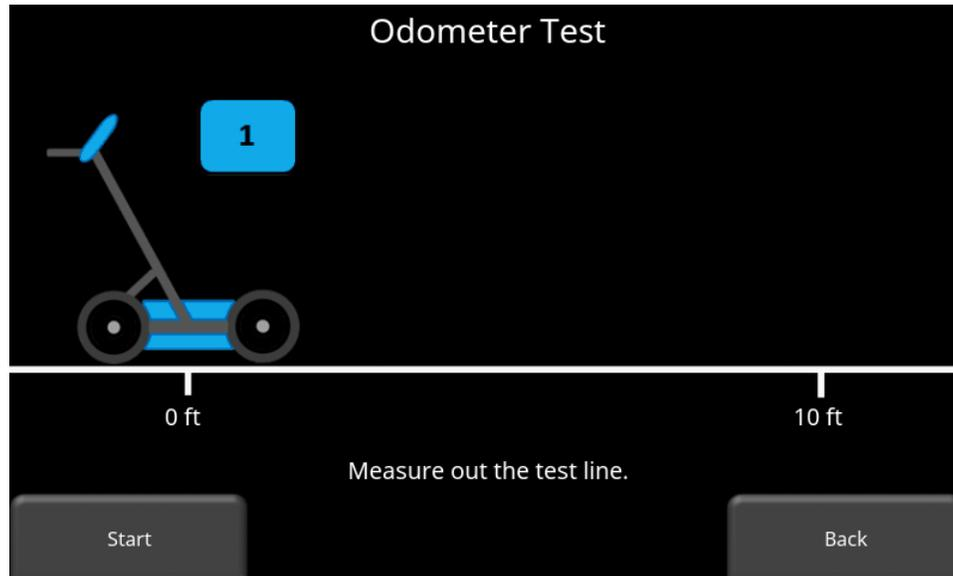
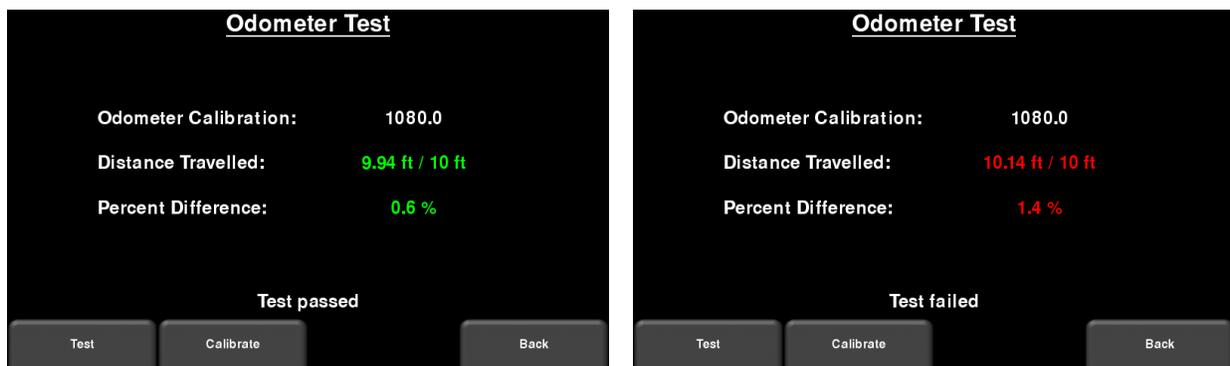

Figure 6-18: Doing an odometer test
Figure 6-19: Odometer Test passed on left, failed on the right
- Odometer Test** – This test verifies the odometer is calibrated properly. It involves moving the system a set distance (5m or 10', depending on units used), and comparing the value obtained to a known value. The screen in Figure 6-18 will be displayed once Odometer Test is pressed. Press **Start** to begin and then press **Finish** when you've moved that distance. It will display a pass or fail, along with a percentage difference from the known value (Figure 6-19).